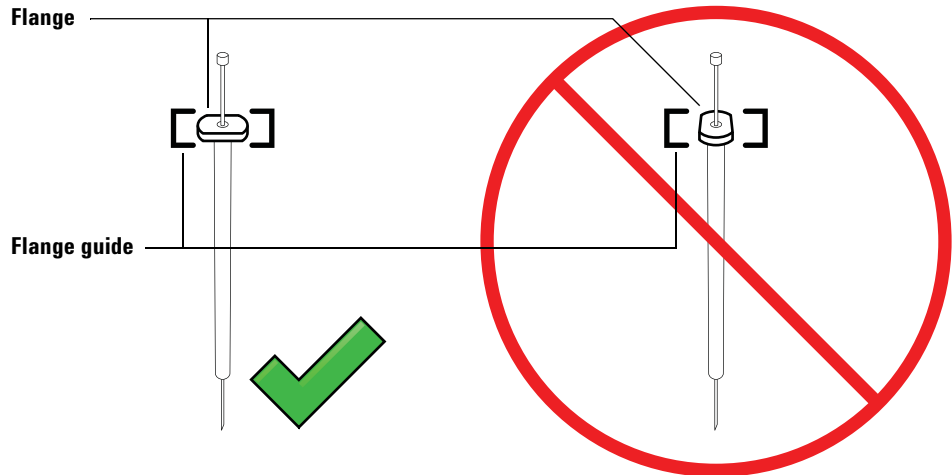

Figure 41 Syringe flange orientation
- 7 Align the syringe flange with the flange guide and press the syringe into place, keeping the needle end in the guide hole of the needle support foot. Make sure that the flat edge of the syringe flange faces out (Figure 41).